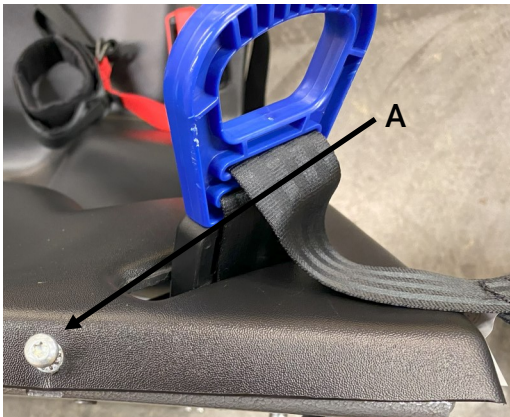

Figure 10
- Locate the 1/4-20 button head screw on top of seat near each shoulder retractor handle. Loosen screw so that seat base can be moved away from chair frame (Fig. 10).